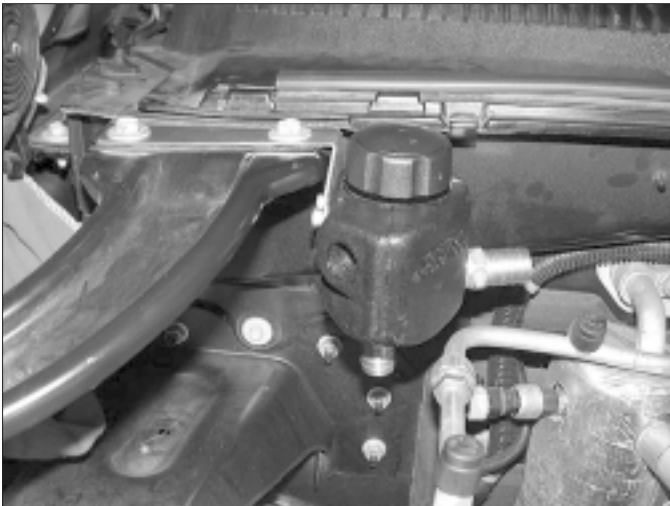

Fig. 15-a
3. Unbolt the two bolts holding the passenger's side hood hinge brace at the base of the windshield. Install the surge tank/bracket assembly using the stock hardware. (See Fig. 15-a.)